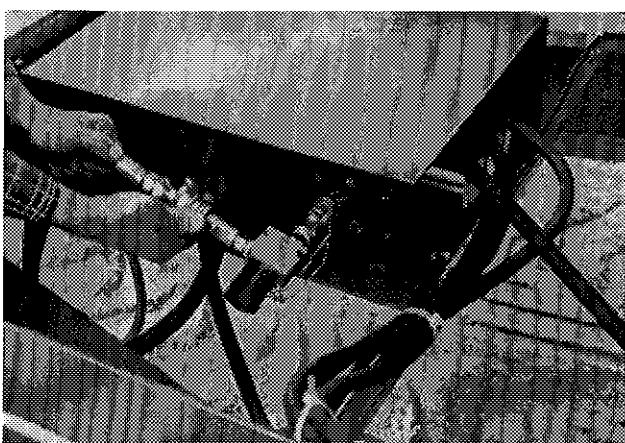

Figure 9
- 4) If your tractor is equipped with a close center hydraulic system, the conversion kit P-6890 must be installed. A plug-in solenoid valve is provided as an option and must be connected to the hydraulic circuit and to the electric circuit. (Figure 9).